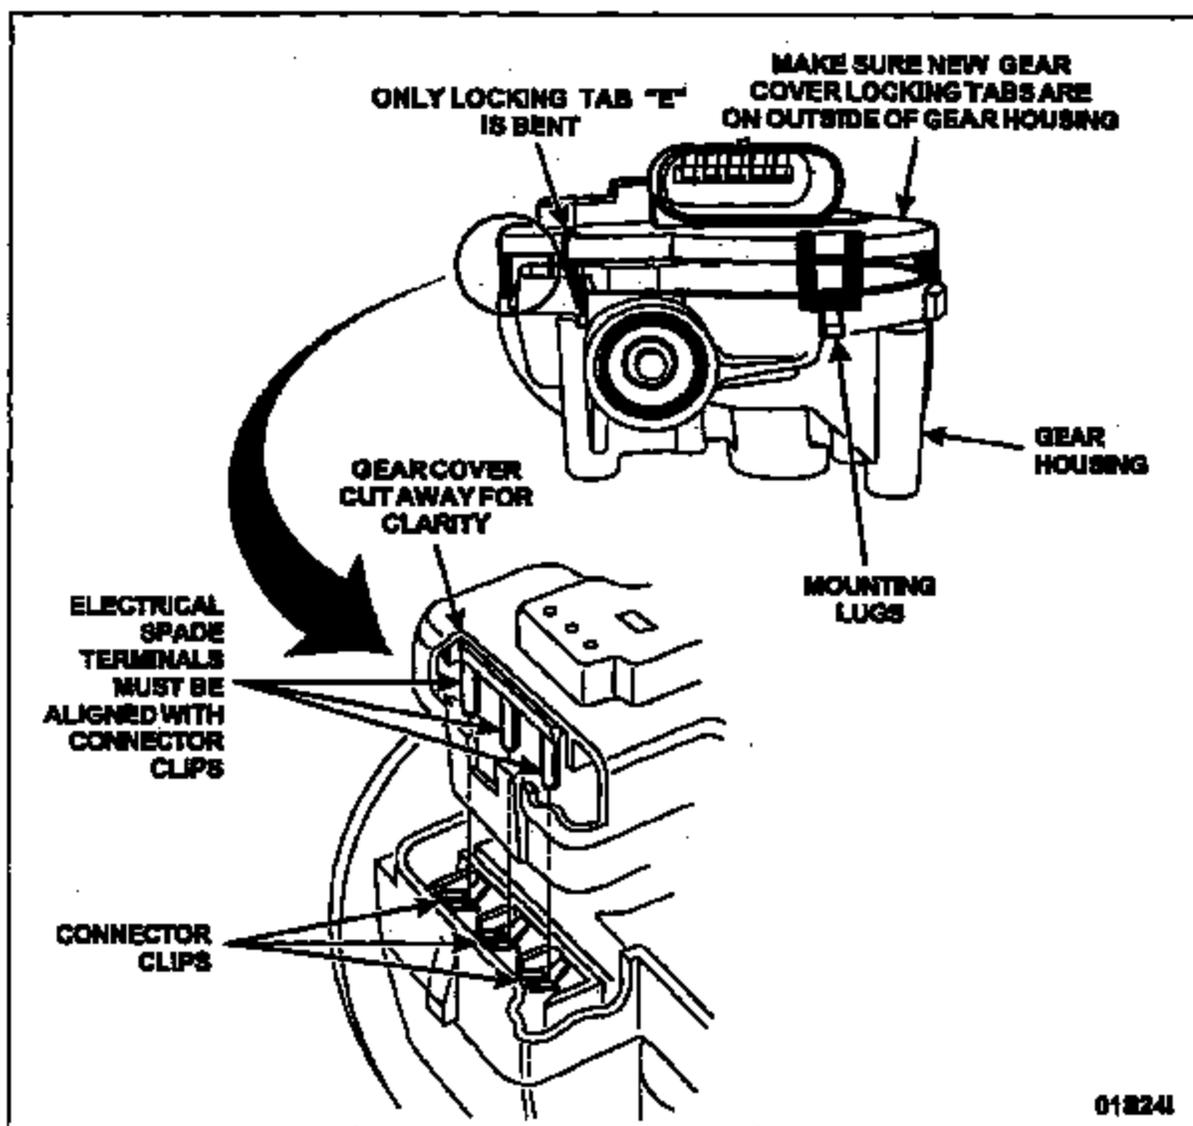

FIGURE 9
1. **IMPORTANT:** Position cover on gear housing so that each plastic locking tab is outside of the gear housing cavity and is resting over the mounting lugs. Ensure that the electrical spade terminals are lined up with the connector clips. See Figure 9.